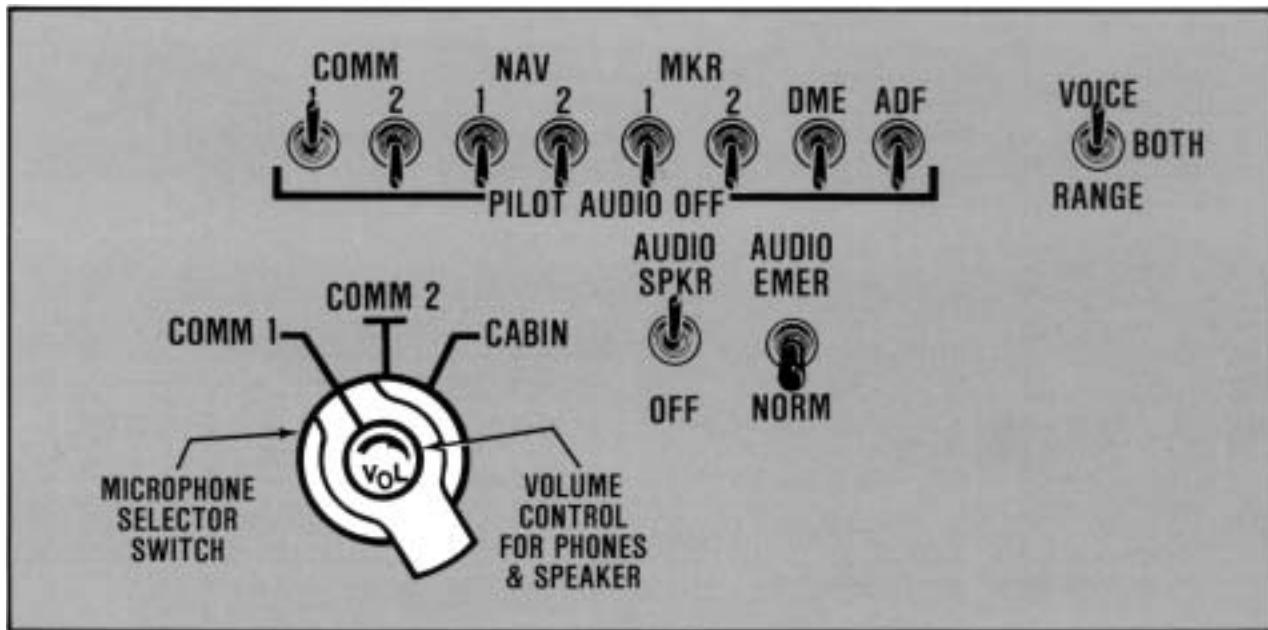
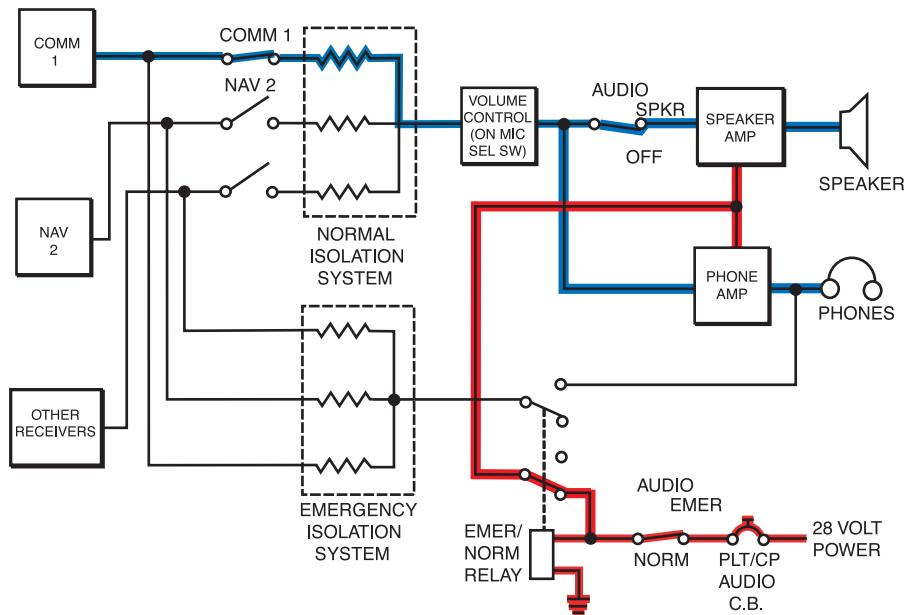

Figure 16-19 King Air 300 DB-415 Audio Switching Panel (Typical)
Figure 16-20 King Air 300 DB-415 Normal Operation Schematic
Under "normal" circumstances, the normal/emergency switch should remain in the NORM position (Figure 16-19). The following operating rules apply when in the normal mode of operation (Figure 16-20). Rules will only be listed for the pilot's audio system; however, they apply equally to the copilot's audio system:
- The switch labeled VOICE – BOTH – RANGE (see Figure 16-19) works in conjunction with both the ADF and NAV receivers. When in the VOICE position, the voice portion of the audio will be heard and not the Morse code station identification. When in the RANGE (ident) position, only the Morse code station identification will be heard, not the voice portion. When in the BOTH position, both the voice and range portions of the audio will be heard.